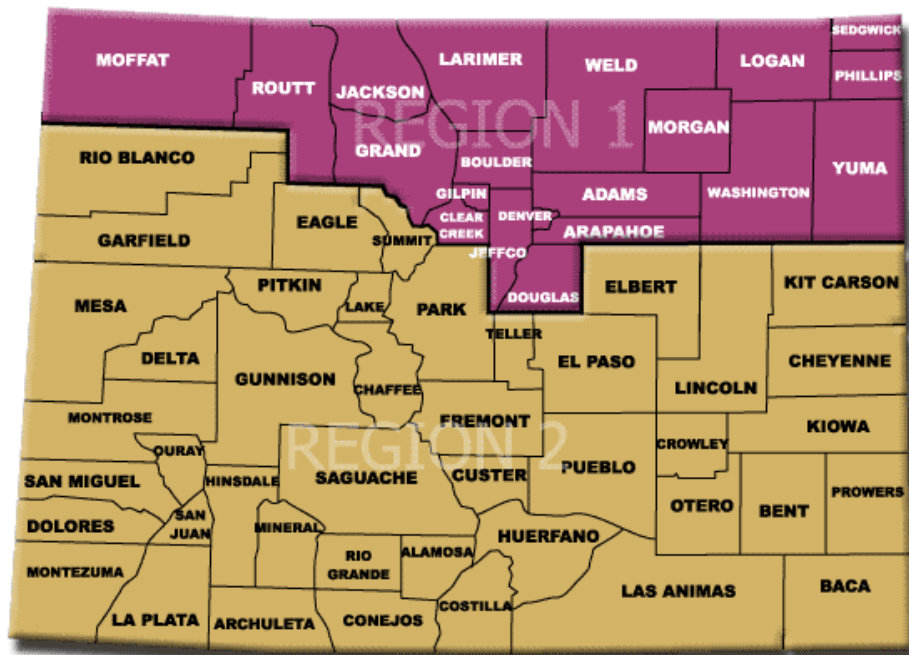
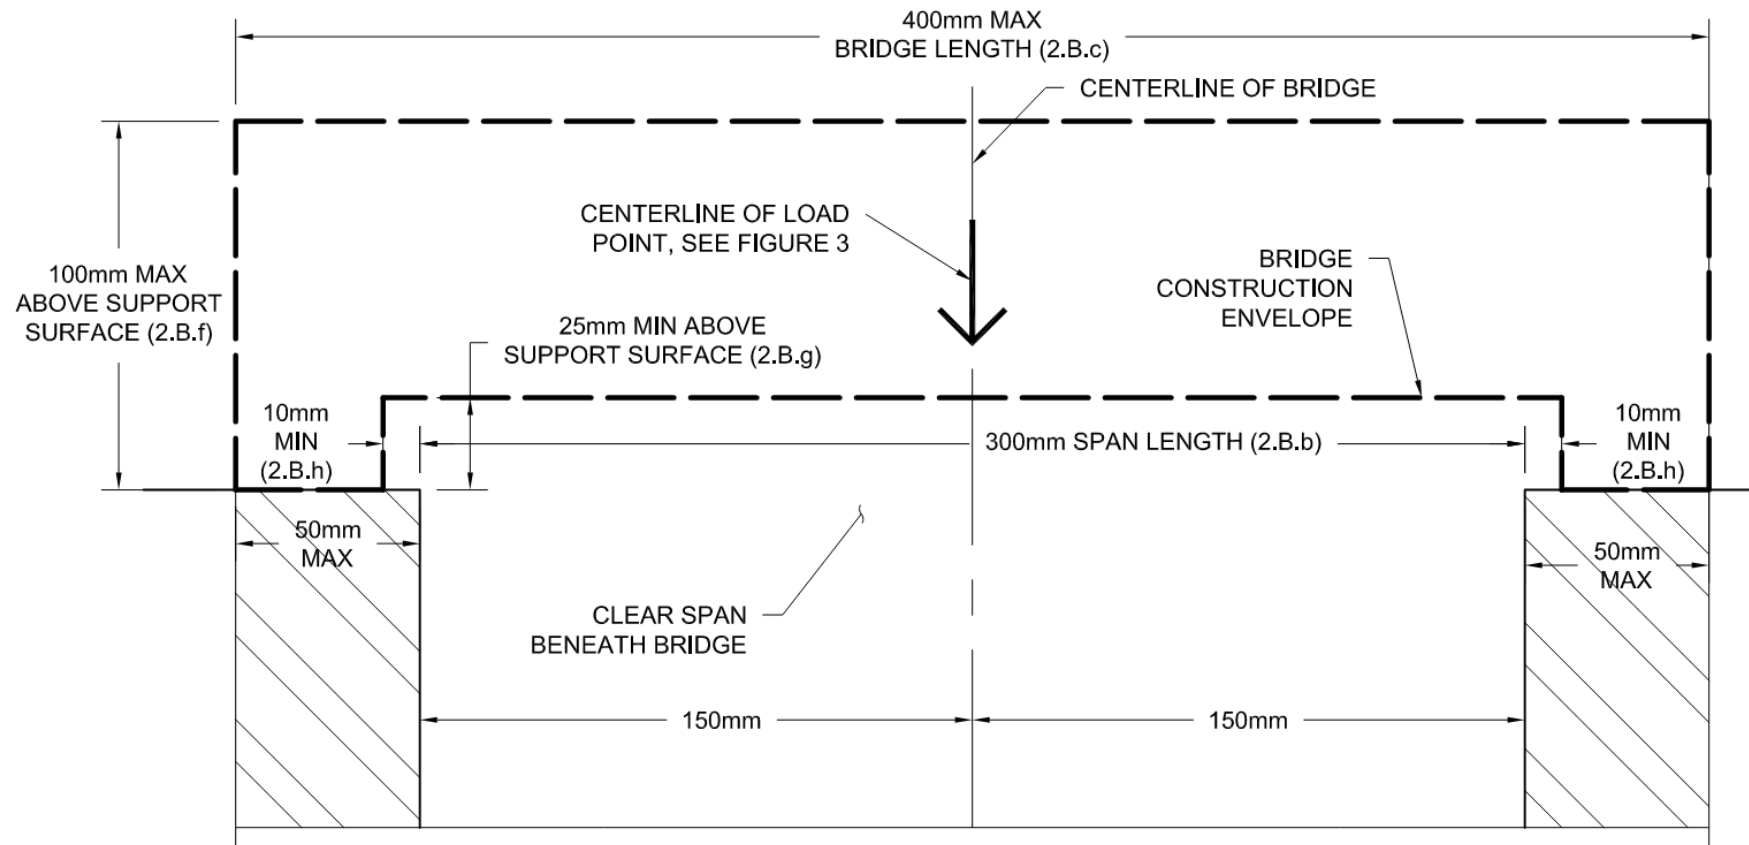

FIGURE 1 SUPPORT SURFACE AND BRIDGE ENVELOPE DIMENSIONS (SECTION VIEW-NOT TO SCALE)
FIGURE 2 SUPPORT SURFACE AND BRIDGE ENVELOPE DIMENSIONS (PLAN VIEW-NOT TO SCALE)
- a. The allowable bridge construction envelope is shown in Figure 1 and Figure 2.